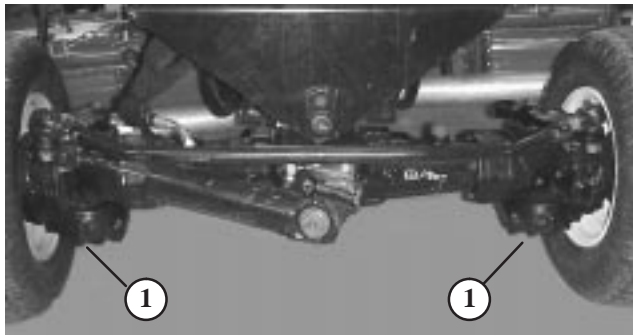

Figure 69
2. Clean area around the drain plugs (Fig. 69).